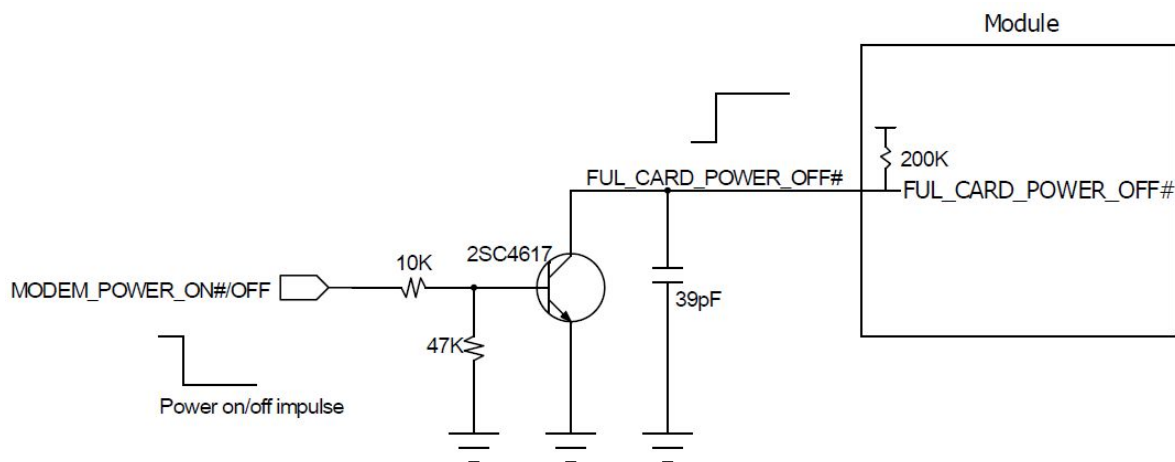

Figure 3-4 Circuit for Module Start-up Controlled by AP
- AP (Application Processor) controls the module start-up, and the circuit design is shown in Figure 3-4: